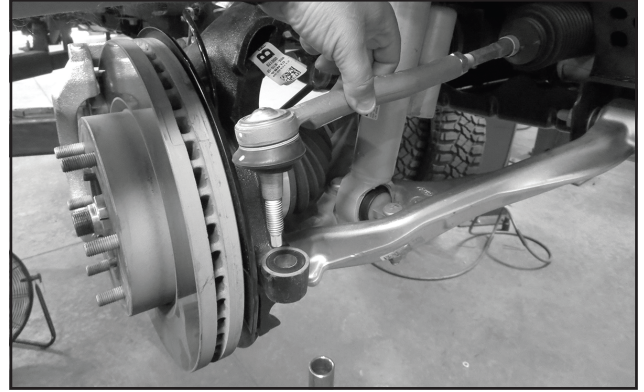

FIGURE 2 - STEP 3
3. Loosen the tie rod nut and carefully strike the knuckle with a hammer until it comes loose. Save hardware. **(FIGURE 2).**